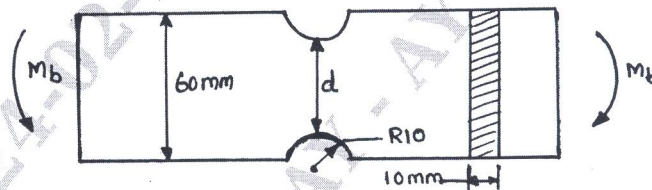

Fig.Q3(a)
- 3 a. A notched flat plate shown in Fig.Q3(a) is subjected to bending moment of 10 N-m. Determine the maximum stress induced in the member by taking the stress concentration into account.